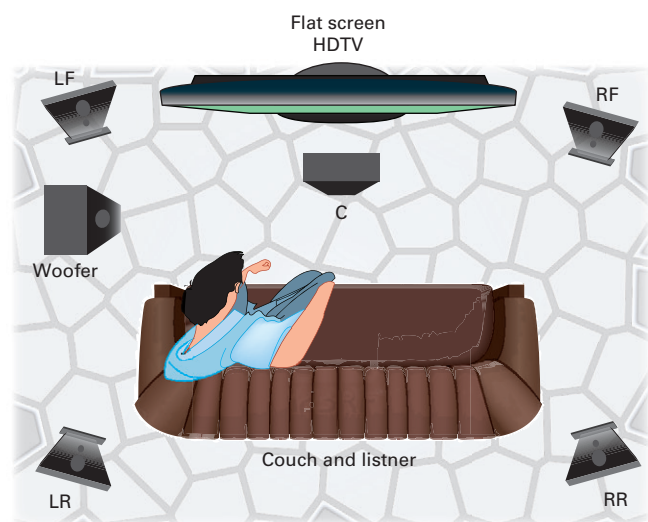

Figure 41-16 A typical 5.1 surround sound system showing speaker locations.
implement a surround system with multiple speakers. For example, a 5.1 surround system has five major speakers and a subwoofer for bass. Figure 41-16 shows the most common arrangement. There are three front-facing speakers: center (C), left front (LF), and right front (RF). Then behind the listener are two surround speakers on the left rear (LR) and right rear (RR). The “.1” reference in the 5.1 designation means that an additional woofer handles the